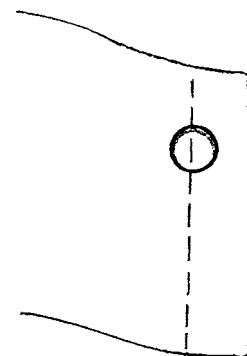

FIG. 2 Straight Stitch
**buttonhole stitch**, *n—in home sewing*, a complex machine stitch pattern made by coordinated motions of needle and feed, appearing as very close stitches forming a narrow rectangle of stitching that is usually composed of four stitch segments, one on each side and on each of the two ends of the rectangle. (See Fig. 2.)